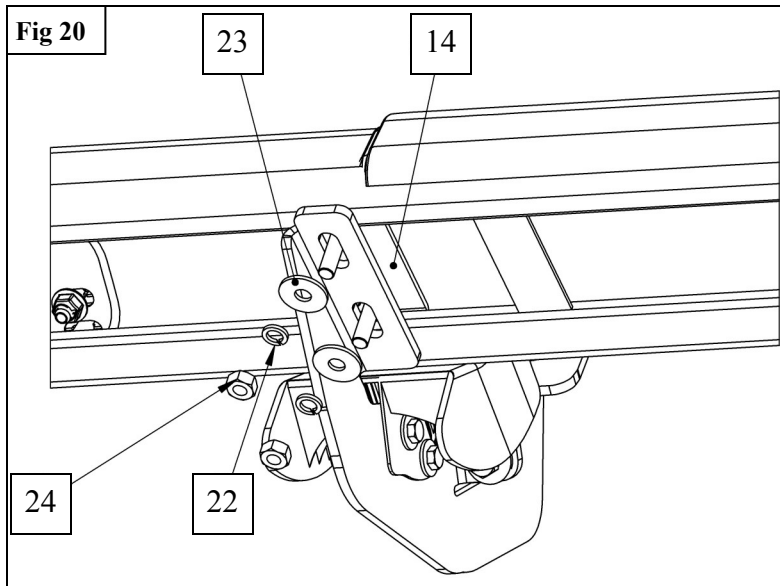

Fig 20
9. Installation of the step boards will utilize the supplied M8 hardware with Plate Adapters (14) for all brackets excluding the Link Brackets (4). The Link Brackets (4) will use the supplied M10 hardware. See Figures 20 and 21.